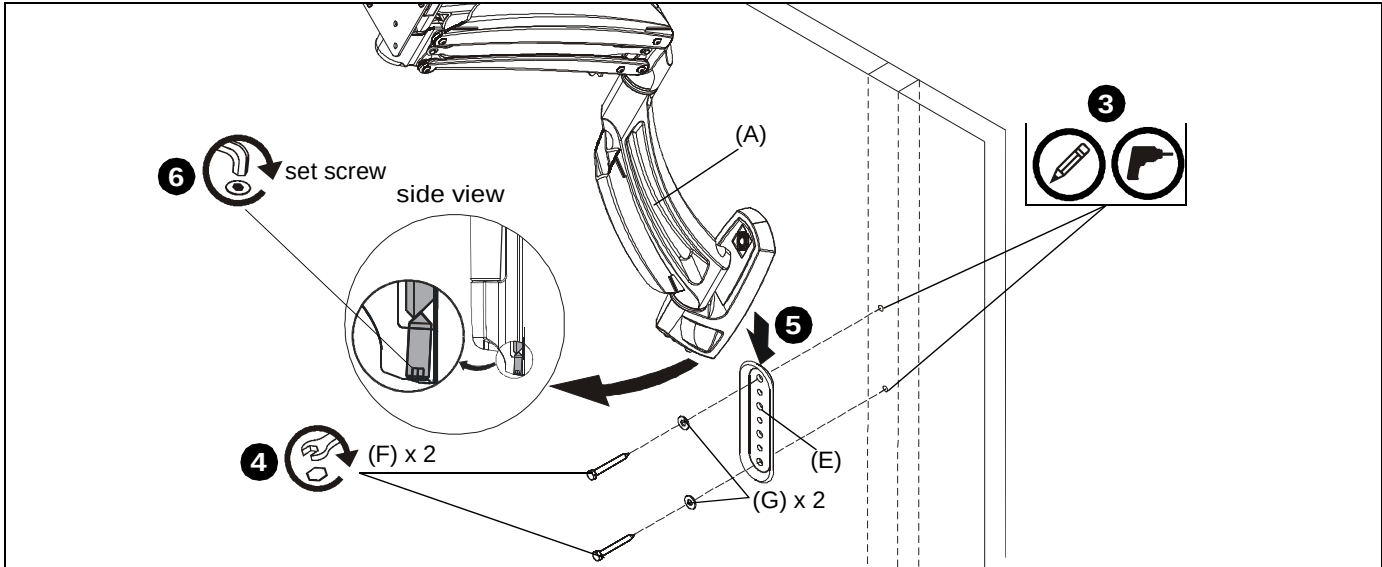

Figure 1
3. Use wall bracket (E) to mark and drill two 1/8" x 2 1/2" holes in wall at desired mounting location. (See Figure 1)
IMPORTANT ! : Only top and bottom holes of wall bracket (E) must be used to attach bracket to wall as shown in Figure 1. Do NOT use any other holes to secure bracket to wall!
4. Use two 1/4-2 1/2" hex head lag screws (F) and two 1/4" washers (G) to install wall bracket (E) onto wall. (See Figure 1)
5. Hang monitor arm (A) over wall bracket (E). (See Figure 1)
6. Secure monitor arm to wall bracket (E) by tightening set screw. Ensure set screw engages back side of wall bracket (E) to properly secure mount. (See Figure 1)